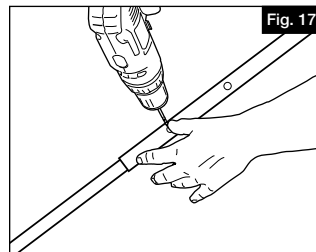
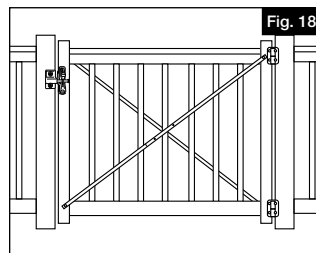

Fig. 17
Fig. 18
- 14.** Attach brace to the uprights. Pre-drill one end of the brace through the provided screw hole (Fig. 17). Secure brace to the upright using the #8 x 3/4" screws provided (item M from component list). Repeat this step at the other end of the brace (Fig. 18).